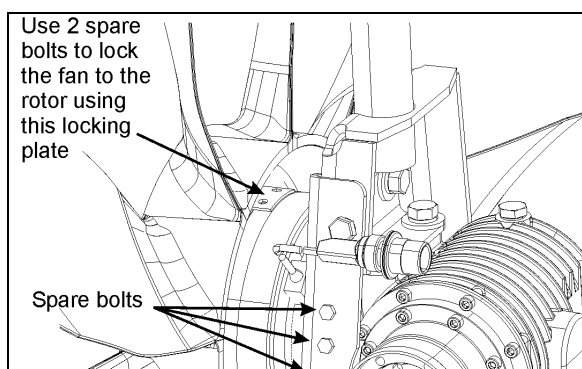

FIGURE 21: MECHANICAL LOCKING
5. Screw in and tighten the spare bolts (Fig. 21).